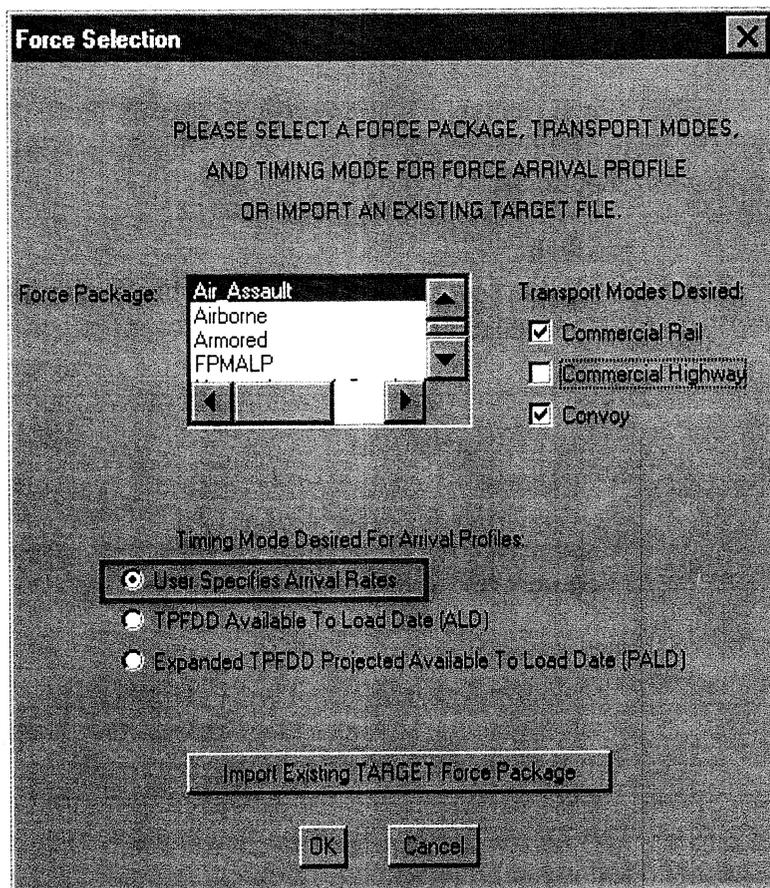

Figure 1: Deterministic Cargo Arrival — Option 1
- Force Selection window (Figures 1, 3, 5, 7, 9, and 11).
1. When creating a new scenario or modifying an existing scenario, make the following series of choices on the PORTSIM menus and windows (Figure 1):